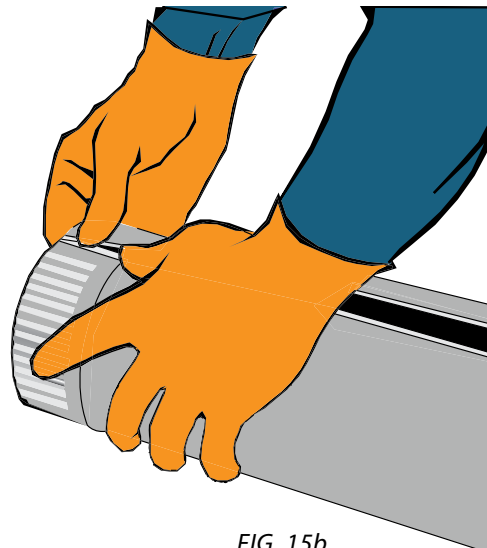
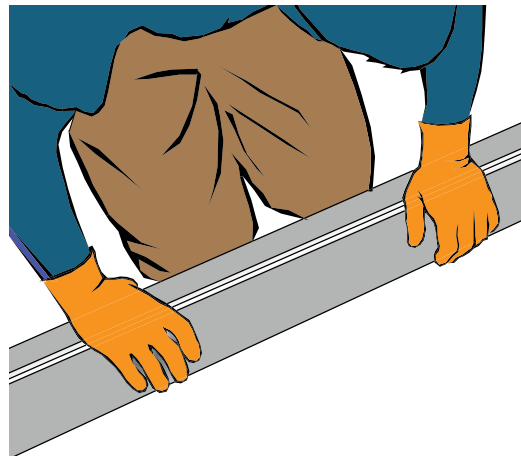

FIG. 15b
FIG. 15c
- b. Start at the crimped end and work the seam together like a zipper. Hold together with one hand (or with large rubber bands) and move down the pipe as the seam snaps together [FIG. 15b]. When you get halfway, it should snap fully closed [FIG. 15c].